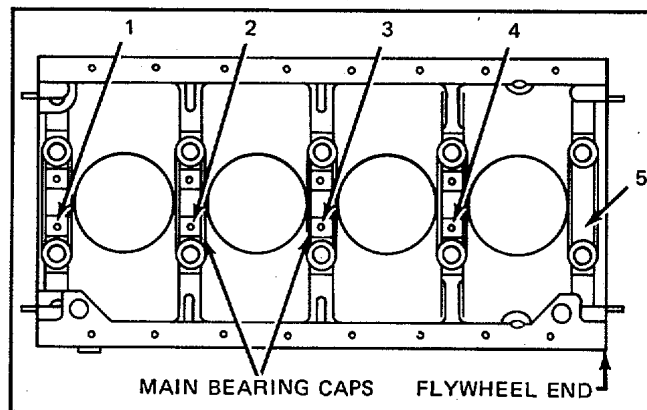

Figure 11. Typical Cylinder Block Markings
Bearing caps are numbered to correspond with their respective positions in the cylinder block. It is imperative that the bearing caps are reinstalled in their original positions to maintain the main bearing bore alignment. The number of the front main bearing cap is also stamped on the face of the oil pan mounting flange of the cylinder block, adjacent to its permanent location in the engine as established at the time of manufacture. The No. 1 main bearing cap is always located at the end opposite the flywheel end of the cylinder block (Fig. 11).
2. If a new service replacement block is used, stamp the engine serial number and model number on the upper rear corner of the in-line block. Also stamp the position numbers on the main bearing caps (Fig. 11) and the position of the No. 1 bearing on the oil pan mounting flange of the block.